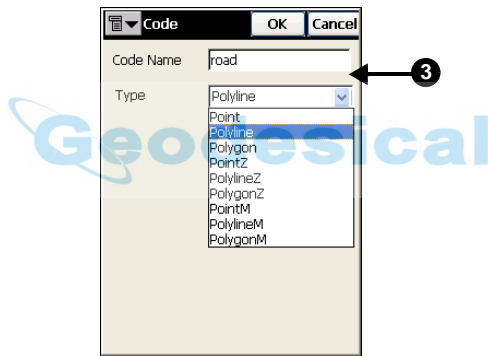

Figure 2-16. Select Parameters for Code
3. On the *Code* screen, enter a name for the code and select the code type. Press **OK** to save (Figure 2-16).